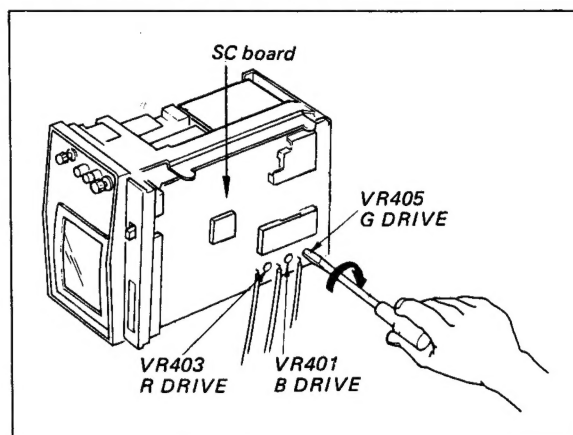

Fig. 3-17. Drive controls adjustment
- (1) Set the BRT and PICTURE controls fully clockwise.
- (2) Adjust all the three (red, green and blue) DRIVE controls on the SC board for optimum white balance as shown in Fig. 3-17.